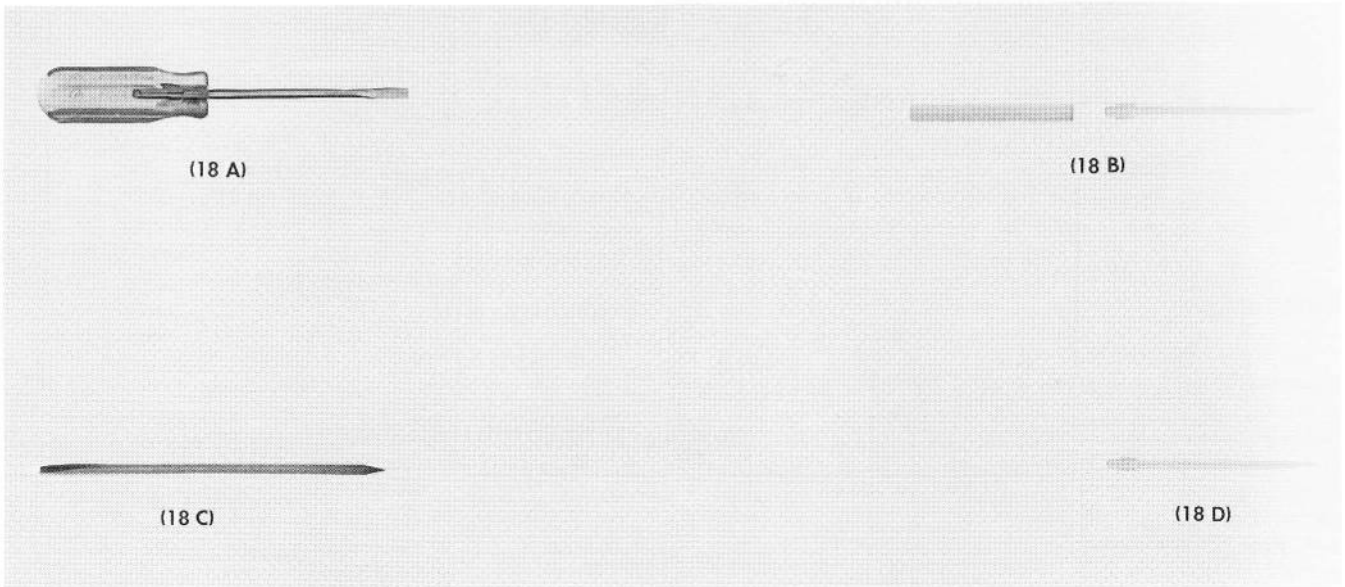

Fig. 6-1. Alignment tools for calibrating the Type 3L5.
11. Three (3), 50  $\Omega$  coaxial cables. 42 inches long, BNC connectors. Tektronix Part No. 012-0057-00.
15. Four (4), 50  $\Omega$  10:1 attenuators, BNC connectors. Tektronix Part No. 011-0059-00.
16. Three (3), 50  $\Omega$ , 5:1 attenuators, BNC connectors. Tektronix Part No. 011-0060-00.
20. Alignment Tools: (Fig. 6-1)